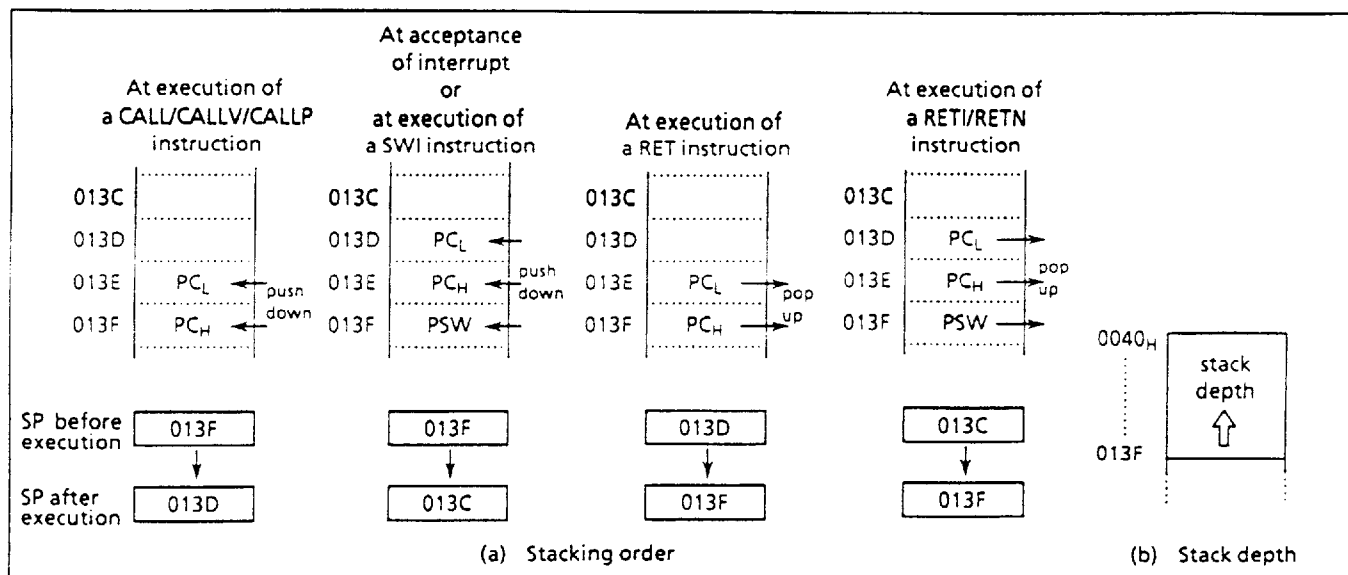

Figure 1-8. Stack
1.7.2 Stack Pointer (SP)
The stack pointer (SP) is a 16-bit register to point out the first start address on the stack. The SP is post-decrement when a subroutine call or a push instruction is executed, or when an interrupt is accepted; and the SPC is pre-incremented when a return or a pop instruction is executed. The stack deepens to the direction of the lower address. Figure 1.8 shows the change of the stack access and the SP.